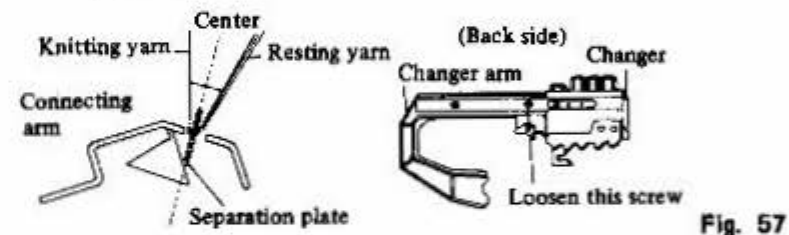

Fig. 57
- 2.1.2 Look at the colour changer from side and check if there is a separation plate just in the middle between the knitting yarn and resting yarns. (See Fig. 57)